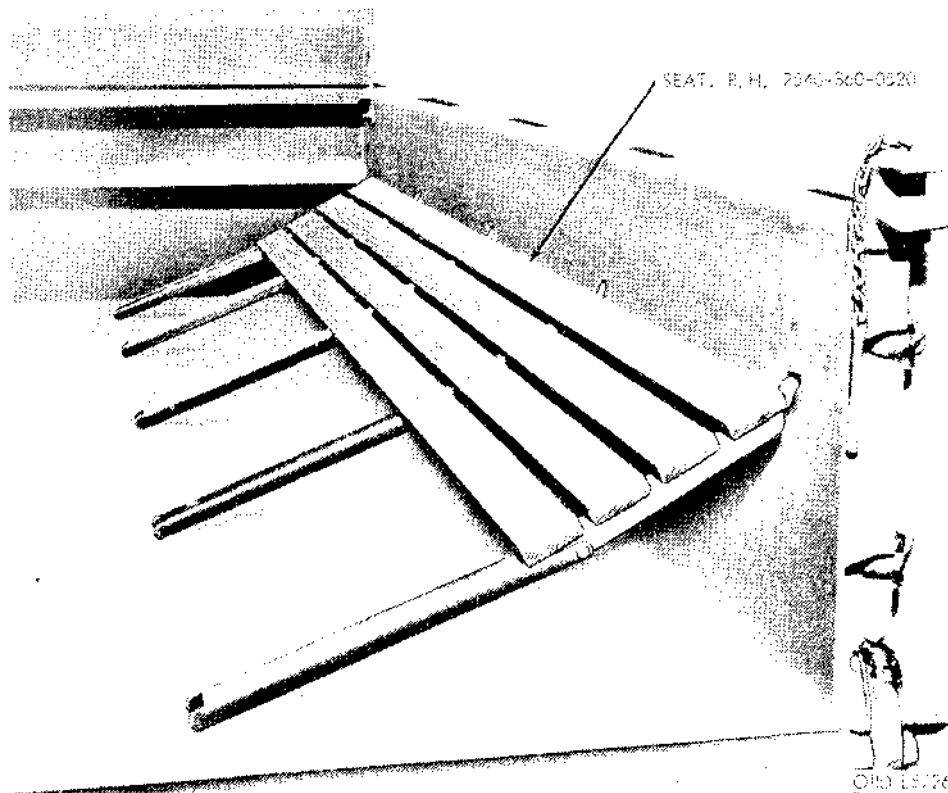

Figure 2-225. Installing seat hooks in slots.
(1) Fold out the legs of the right troop seat assembly flat on the floor of the body.
(2) Raise the hook end of the seat assembly, and engage the hooks in the slots in the side of the body as shown in figure 2-225.